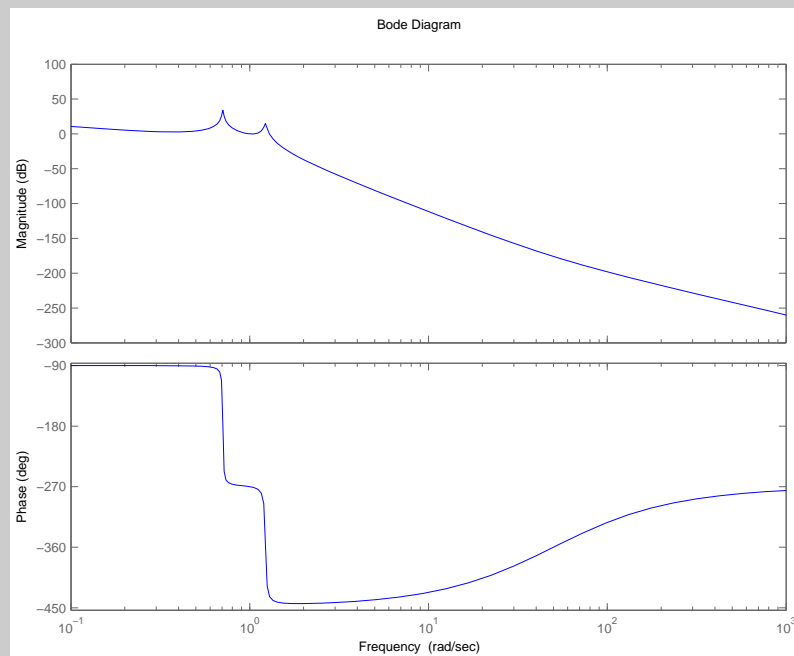

Figure 8: Bode plot from motor torque to load rotational speed, using linear(ized) model from Dymola.
**Solution:** The Bode plot is shown in Figure 8.